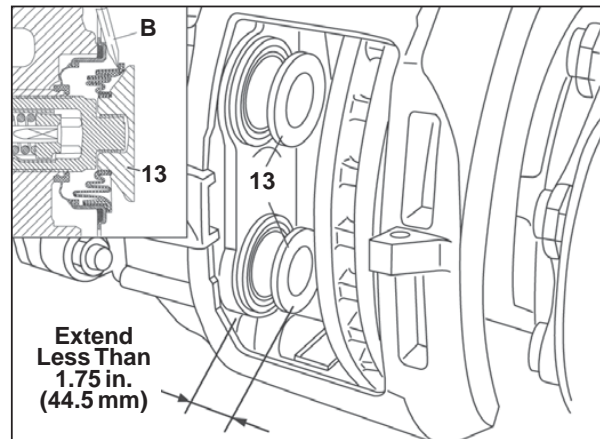
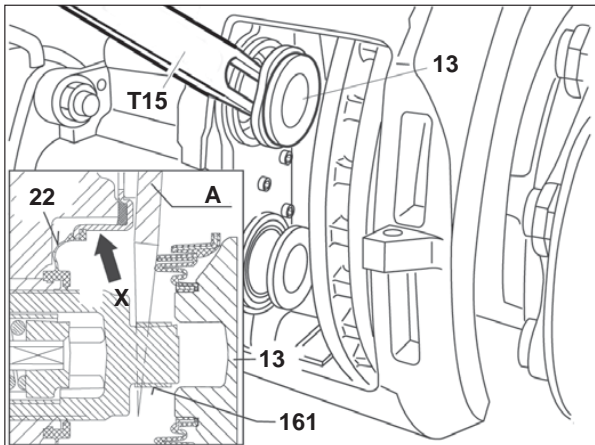

FIGURE 47 - PERMITTED TAPPET EXTENSION
FIGURE 48 - WEDGE TOOL USE
CAUTION: NEVER EXTEND THE TAPPET MORE THAN 1.75 in. (44.5 mm). See Figure 47. Over-extending the tappet will result in the tappet losing engagement with the threads of the synchronizing mechanism. Since the mechanism can only be set at the manufacturing plant, the caliper/carrier assembly must be replaced if this happens.
5.5.4 See Figure 47. Extend the tappets — less than 1.75 in. (44.5 mm) — by turning the shear adapter (61) clockwise. A screwdriver (callout “B” in
Figure 47 inset) should be used to move the boot and allow the wedge fork ("A" in Figure 48) to be inserted.
CAUTION: Do not insert the screw driver more than ¼ inch. Take care not to damage the inner sealing face (see arrow "X" in Figure 48). Gouges or grooves will prevent a good seal and will require that the caliper be replaced.